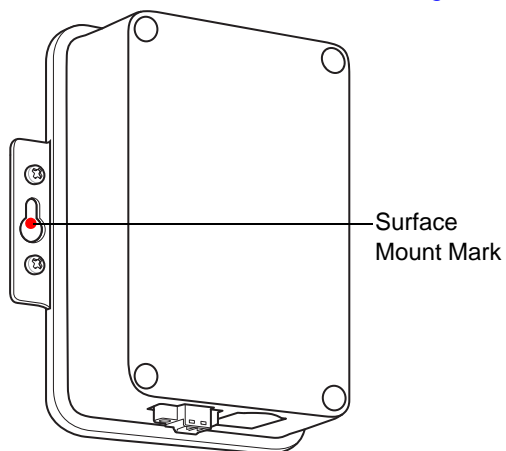

Figure 1-12 *Keyhole Mounting Position*
2. Find a mounting location, turn the EA3600 upside down so that the keyhole is in the mounting position, and mark the surface as shown in Figure 1-12.